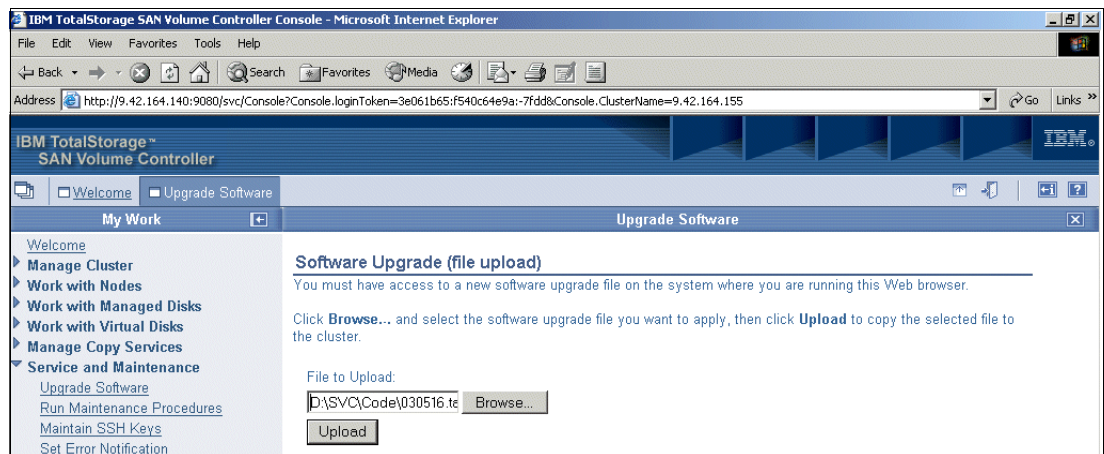

Figure 9-79 Software Upgrade (file upload)
4. On the Software Upgrade (file upload) panel (Figure 9-79), type or browse to the directory on your management workstation (for example, master console) where you stored the latest code level and click **Upload**.